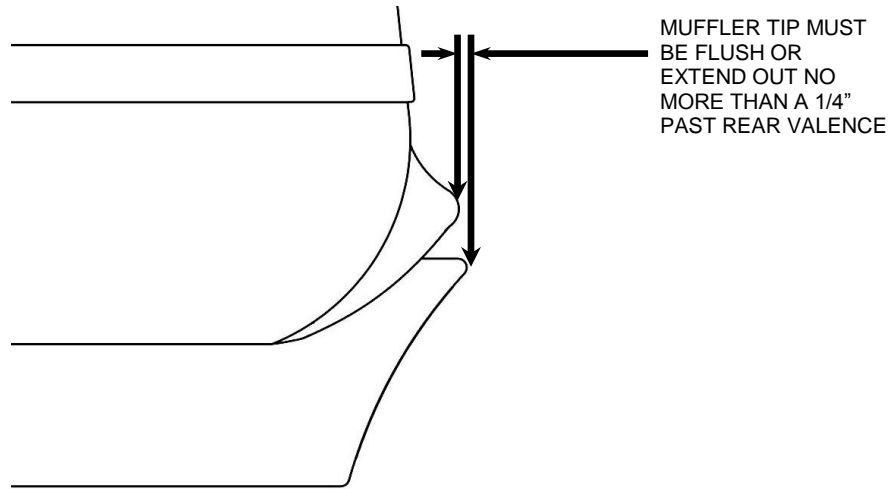

FIGURE 3
5. Adjust the mufflers so that the muffler tip is flush with the rear valence or so that the tip extends out no more than 1/4" past the end of the rear valence. See **Figure 3**. If the mufflers are not flush with or do not extend out past the end of the rear valence the heat from the exhaust may melt or distort the paint.